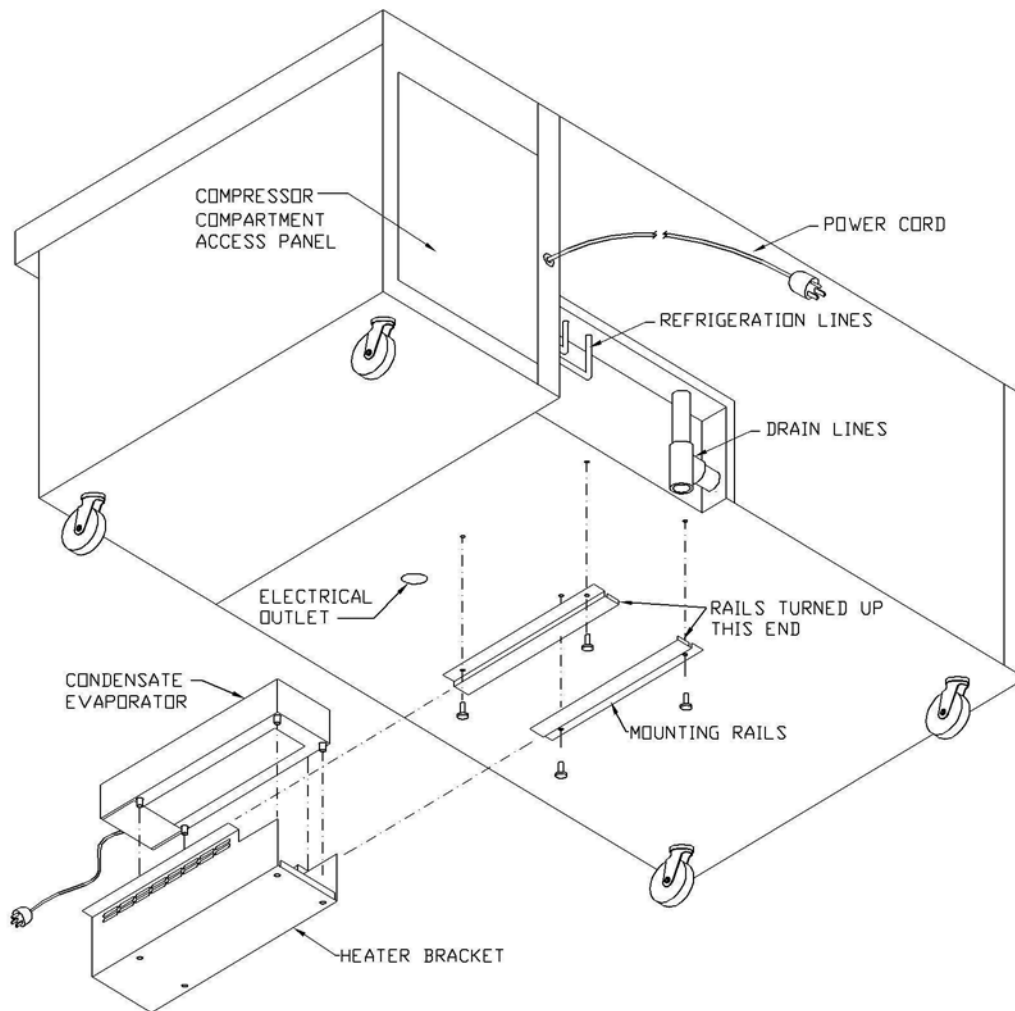

FIG. 4
Some units may come with the electric condensate evaporator shipped loose. To install, attach the two (2) mounting rails to the bottom of the cabinet with 4 or 6 (depending on the model) #6-32 x 3/8 phillips head screws. Place the condensate evaporator in the heater bracket. Slide the heater bracket into the mounting rails. Plug the electrical cord into the heater and the electrical outlet. **NOTE: Drain should be located above the condensate evaporator opening.** (See Fig. 4)